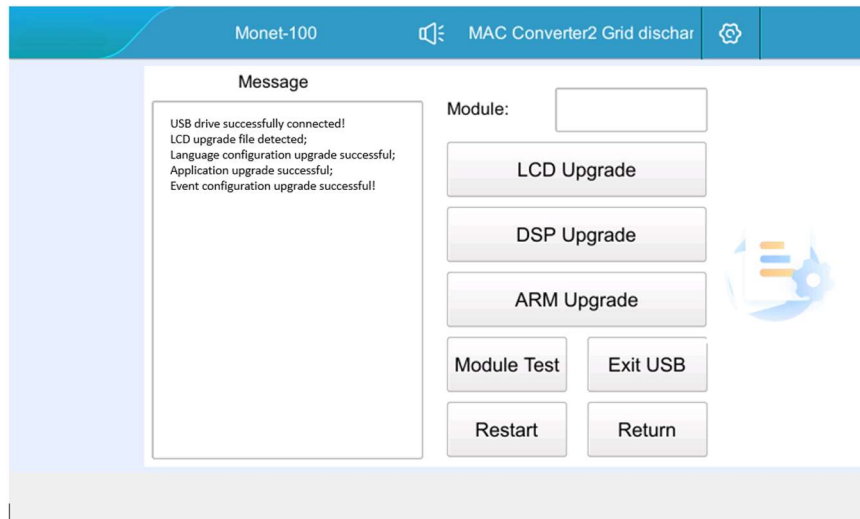

Figure 5.23 LCD Upgrade Software and Reboot Screen
- 6、LCD touch screen software finished, click the "Restart" button, the version of the refresh to take effect, such as Figure 5.23. Customers can be based on the actual situation of the DSP and ARM upgrade is complete, and then click "Restart".